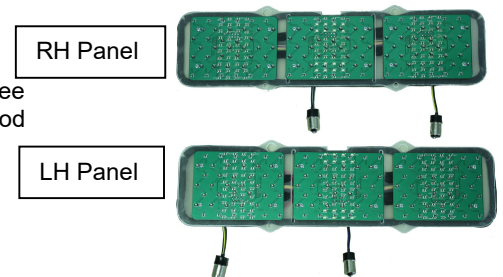

Figure 2
- 3.1. ORIENTATION OF PANELS – Place the Right Hand (RH) and Left Hand (LH) panels into the RH and LH housings respectively. The panels must be installed into the correct housing in order for the sequential patterns to be correct. The correct orientation has the 3 wire bulb plugs mounted within the outboard lighting cell. For the LH panel, the 3 wire connections will be on the left and the alignment notch at the top when looking at the panel from the LED light side. For the RH panel, the 3 wire connections will be on the right and the alignment notch at the top when looking at the panel from the LED light side. (See Figure 2)